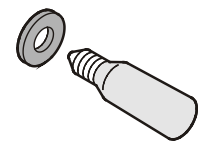

Figure 15
3. Remove the defective lamp. Make sure the seal (**Fig. 15**) is placed on the new lamp before installing it.